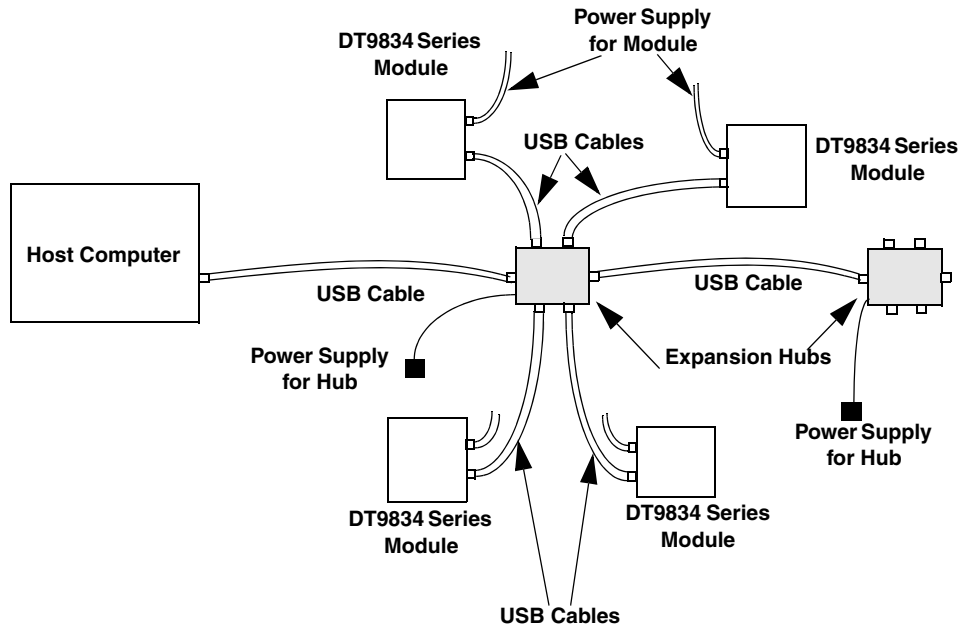

Figure 5: Attaching Multiple DT9834 Series Modules Using Expansion Hubs
6. Repeat these steps until you have attached the number of expansion hubs and modules that you require. Refer to Figure 5.